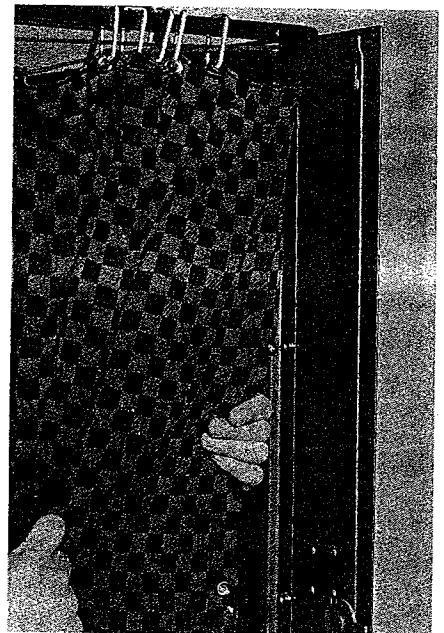

Figure 6. Fastening Curtains
3. Snap Curtains to Doors. (Figure 6)